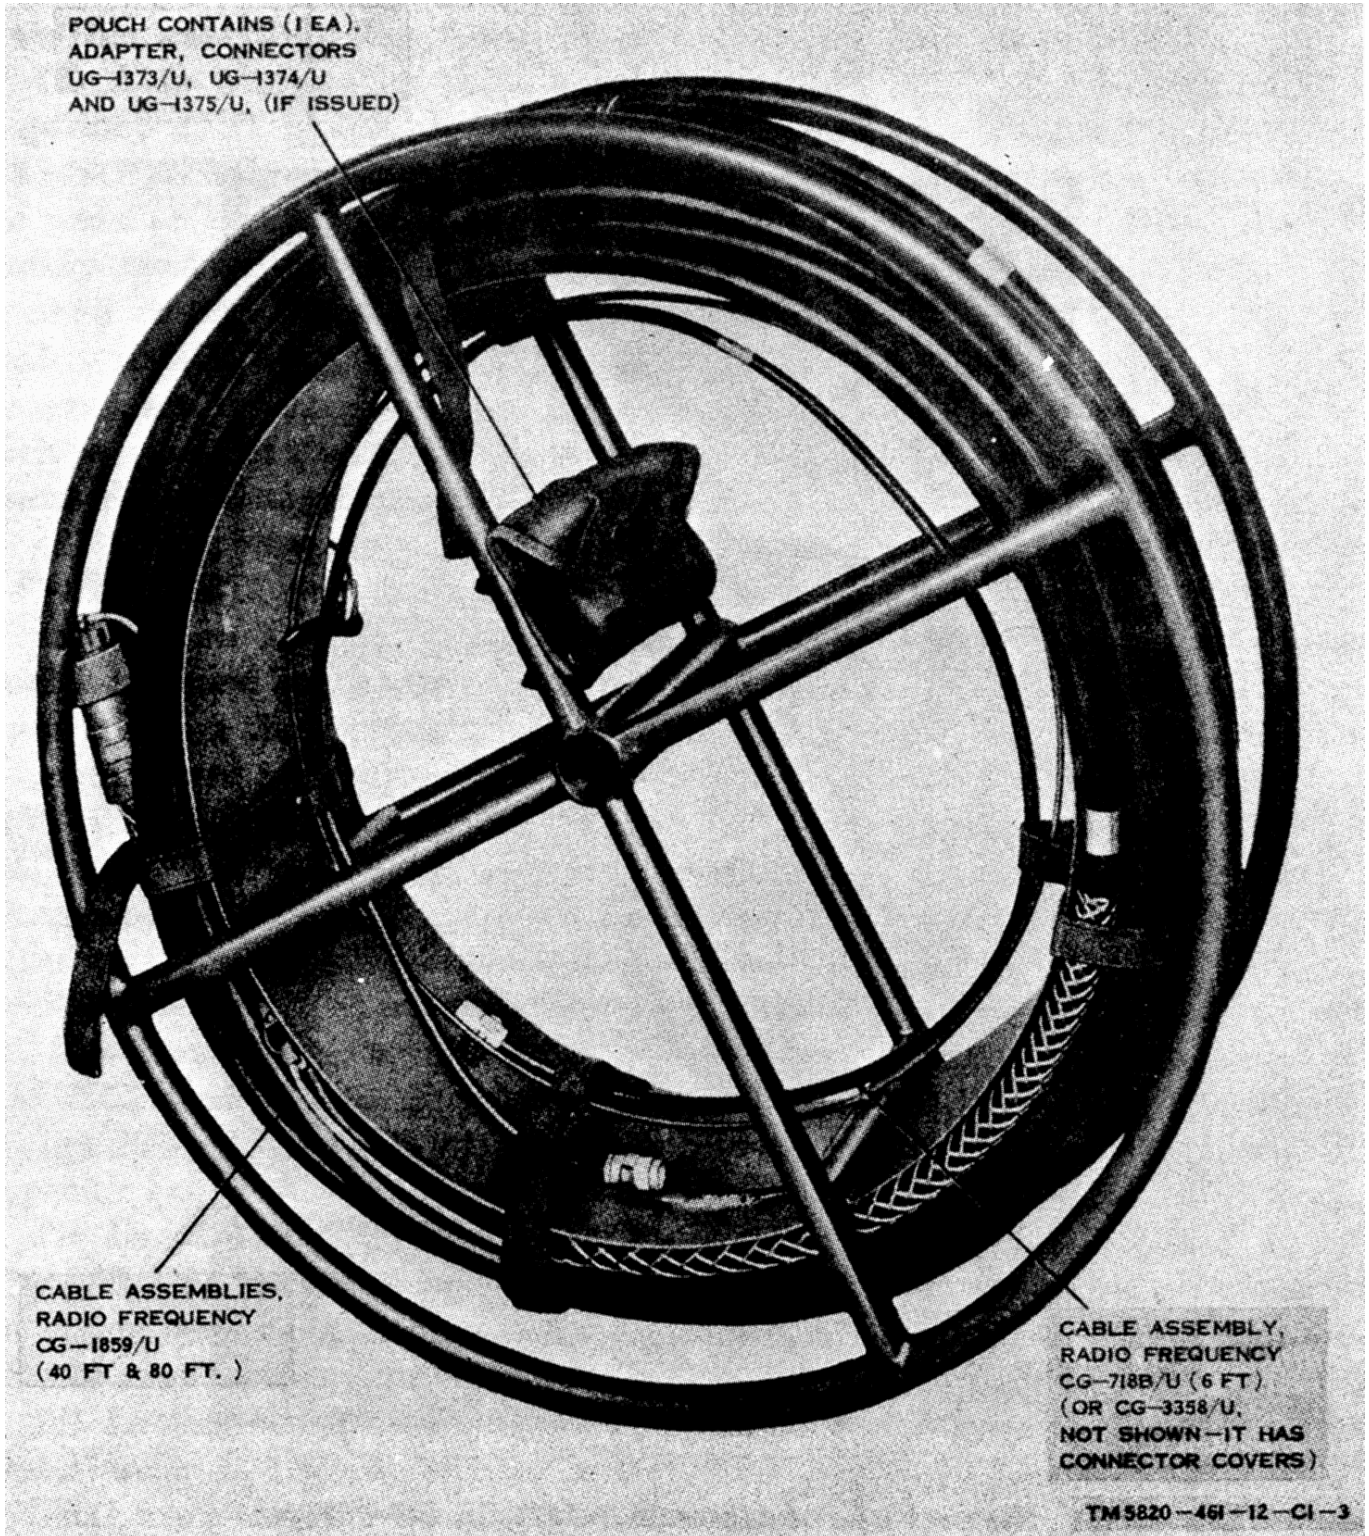

Figure 1-10. Reel, Cable RC-436/GRC, with components mounted on it.
e. Reel, Cable RC - 36/GRC (fig. 1-10) is used to store one Cable Assembly, Radio Frequency CG-1859/U (80 lb); one Cable Assembly, Radio Frequency CG-1859/U ~0 lb); one Cable As